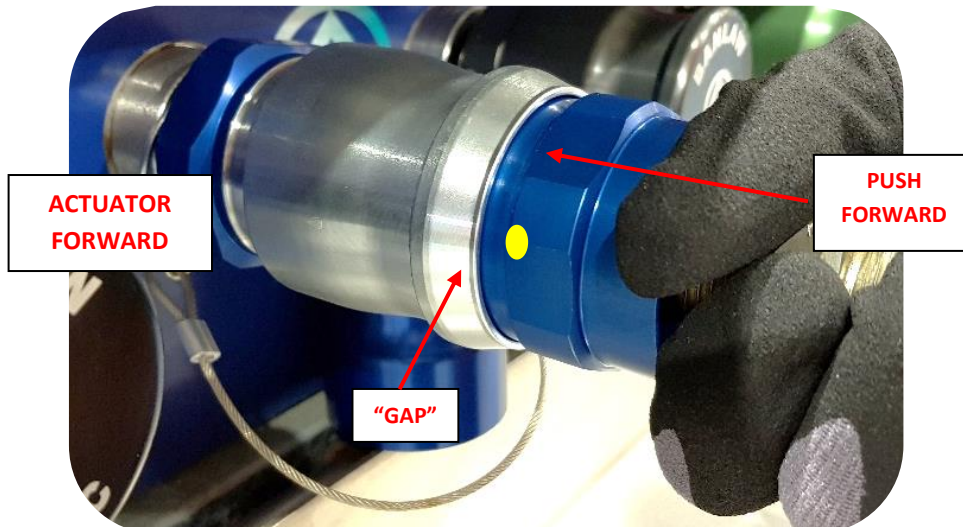

Figure 8 – "Push to Connect" - Couplers Connected
10. The ball lock mechanism is engaged once the Actuator moves into the fully forward position, creating a "gap" (clearance) between the rear of the Actuator and the Nozzle tail – refer Figure 8.